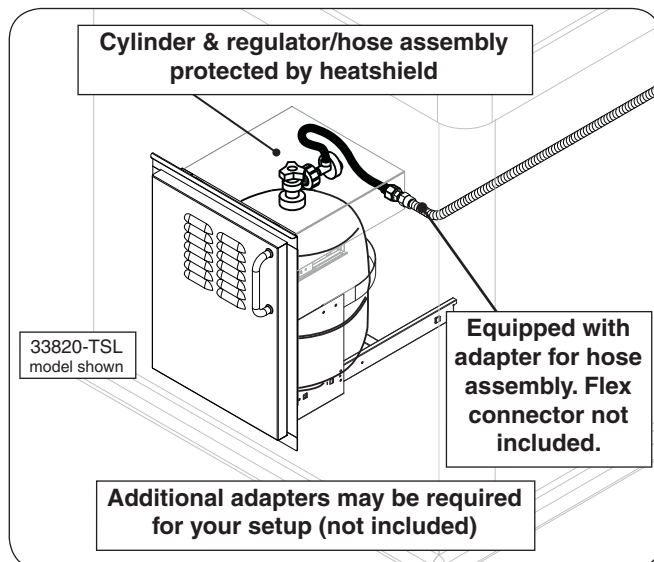

Fig. 11-3 Optional RHP door w/ tank tray
- **RHP offers propane tank door with tank tray models and a propane tank heatshield that rests directly on the tank to meet the cylinder install requirements. See Fig. 11-3. Contact your dealer for ordering information.**